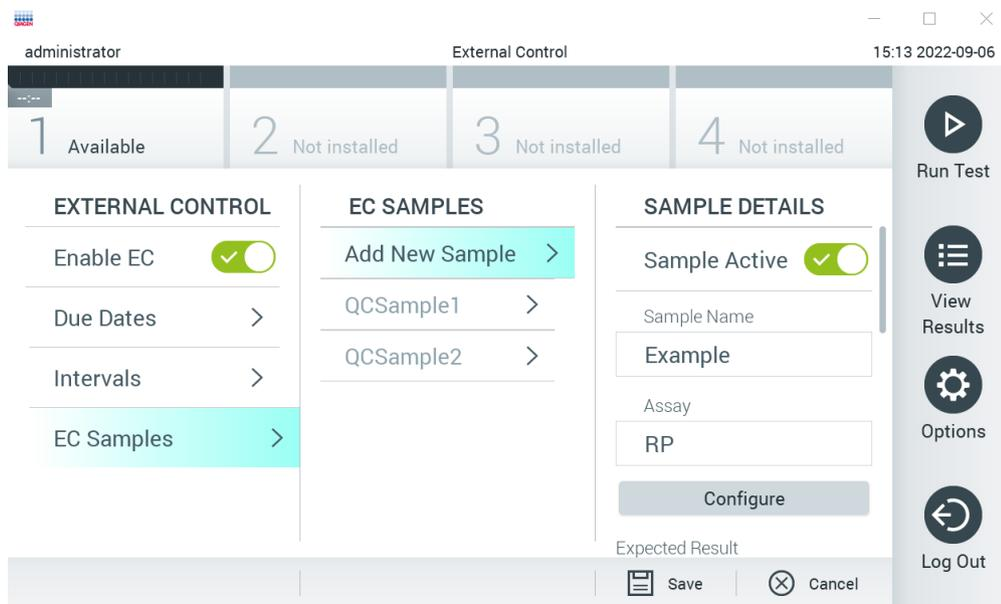
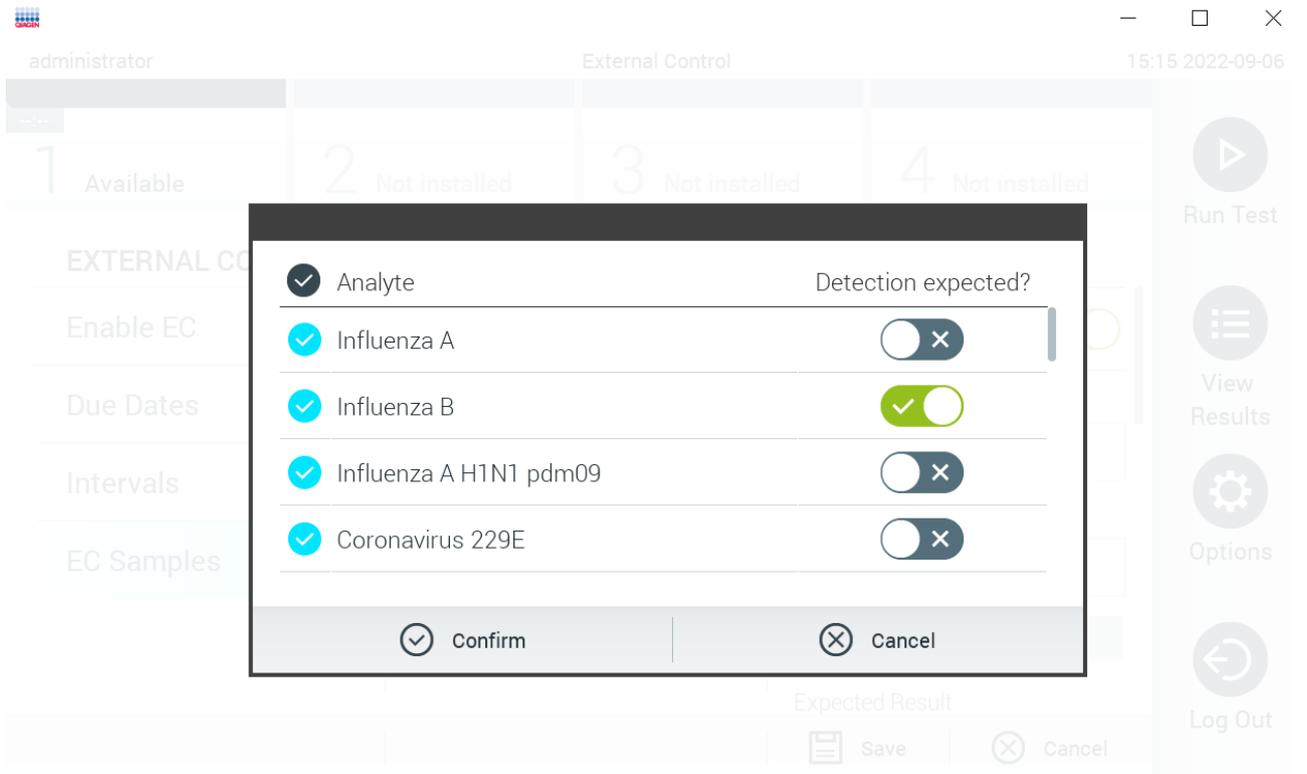

Figure 53. External Control EC Samples screen.
Figure 54. External Control EC Sample configuration screen.
5. Select **EC Samples** to add or edit samples which are used in an External Control test. To add a new EC Sample, press **Add new Sample** and then continue with the configuration in the right column (Figure 53). To edit an EC sample, select an existing one from the middle column and continue with the configuration in the right column.
6. Select **Configure** to edit the analytes in an External Control test (Figure 53). In the External Control EC Sample configuration, it can be determined whether an analyte is considered for the External Control EC run and whether a detection is expected (Figure 54).